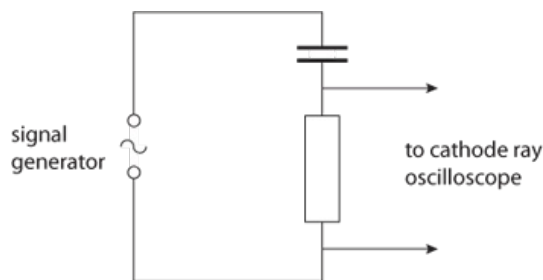

Figure 13.4: Circuit diagram.
- 1 Set up the circuit shown in Figure 13.4. Do not change the output of the signal generator.